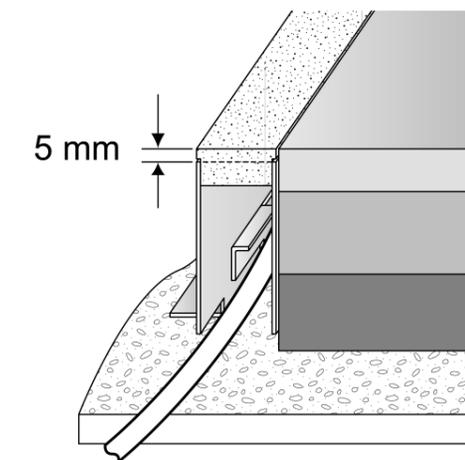

Figure 7
- Place the mounting aid (5) on the frame.
- Fasten the mounting frames with screws (9) and plugs or with bonding compound.
**i** The installed luminaire exceeds the upper edge of the frame by 5 mm. The upper edge of the floor after finishing must therefore also exceed the frame by 5 mm (Figure 7).